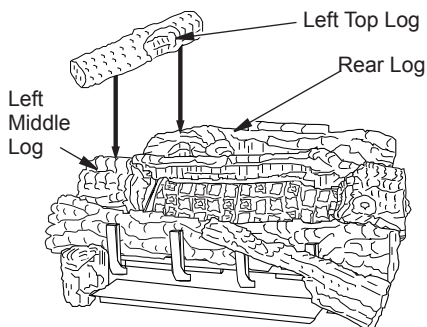

Figure 46 - Installing Left Top Log
10. Place the left top log onto the rear log and the left middle log. Make sure to place the projection on the bottom of the left top log into the recessed areas on the rear and left middle logs (see Figure 46).